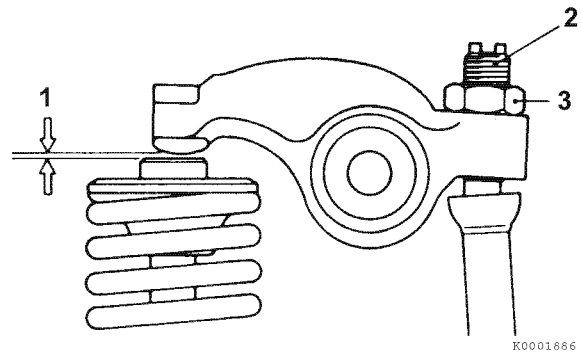

Figure 6-34
3. Check the valve clearance (1, **Figure 6-34**) using a feeler gauge. If adjustment is required, proceed to the next step. *See Valve clearance on page 6-4 for the specification.*
4. Loosen the adjusting screw locknut (3, **Figure 6-34**). Turn the valve adjustment screw (2, **Figure 6-34**) to adjust the valve clearance so there is a slight "drag" on the feeler gauge when sliding it between the rocker arm and the valve cap. Hold the adjusting screw while tightening the valve adjusting screw locknut. Recheck the clearance.